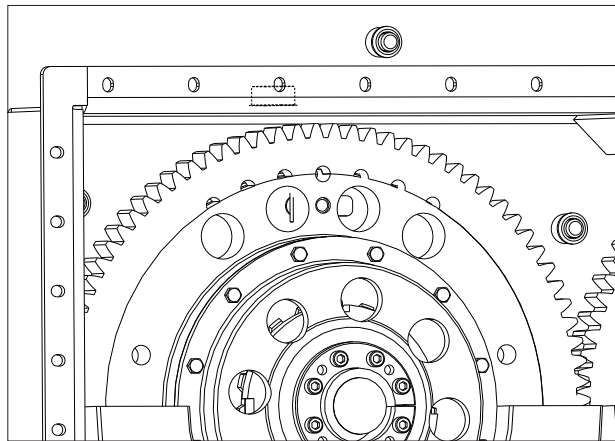

Figure 9.64 - Remove Key Bolt
4. Loosen key bolt. Keep hands away from gears. Carefully remove key bolt, Ref: Figure 9.64.